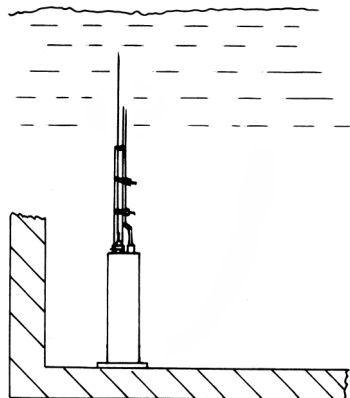

Fig. 3
- Position the supply pump in a stable way on the base of the storage tank, see fig. 3.
- In order to avoid a damage of the main, this is to be fastened with the cable straps in regular intervals to the pressure pipe, see fig. 3.